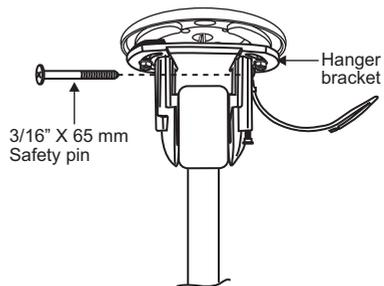

Fig. 14
9. Make sure the Safety Pen installed in Fig 14 is installed but **NOT** tightened. (Fig14)